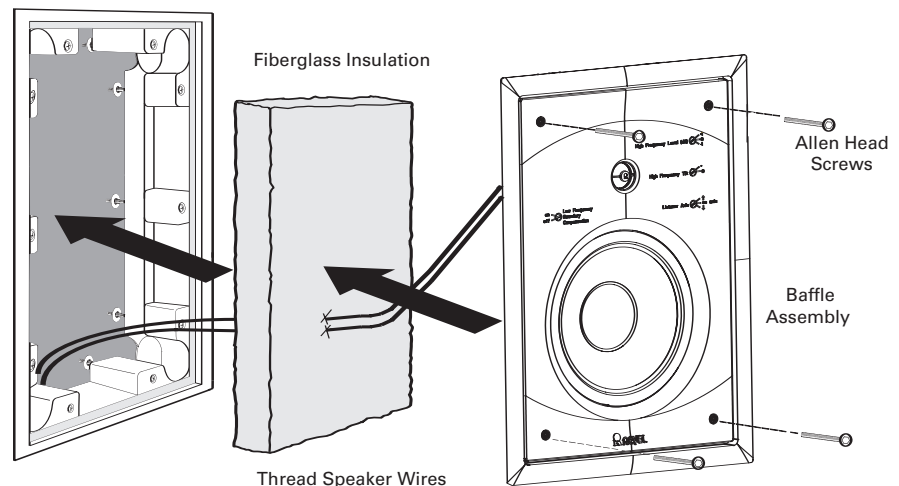

Figure 16: Install the Insulation and Baffle
13. Place the included fiberglass insulation in the back of the mounting frame, as shown in Figure 16. Cut an "x" into the insulation and thread the wire(s) through.
- NOTE:** Be sure that the speaker wires are clear of the woofer basket and not too close to the woofer cone. Make sure the wires are not pinched between the baffle and the mounting frame. Refer to Figure 16.